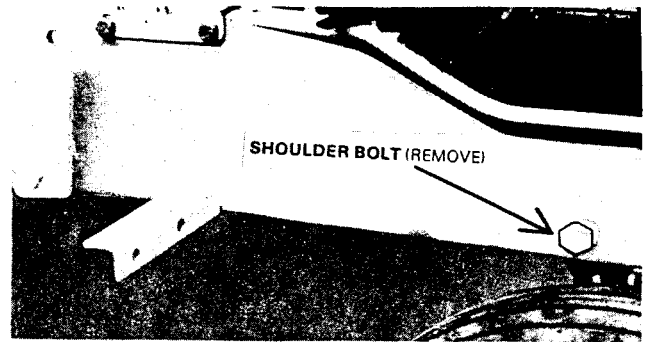

FIG. 7
7. Refer to Fig. 7.
Remove the two shoulder bolts on side of tractor frame, (one on each side). These are not used when the Loader is mounted. (see Fig. 7)